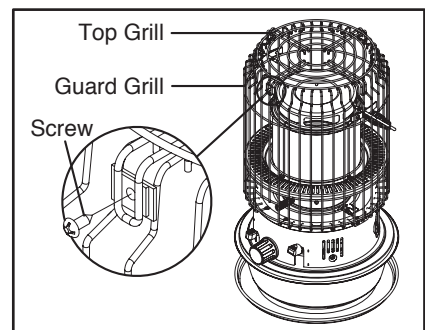

Fig. 5
- Align the 2 holes on Top Grill with the 2 mounting holes on the Guard Grill as shown in Fig 5.